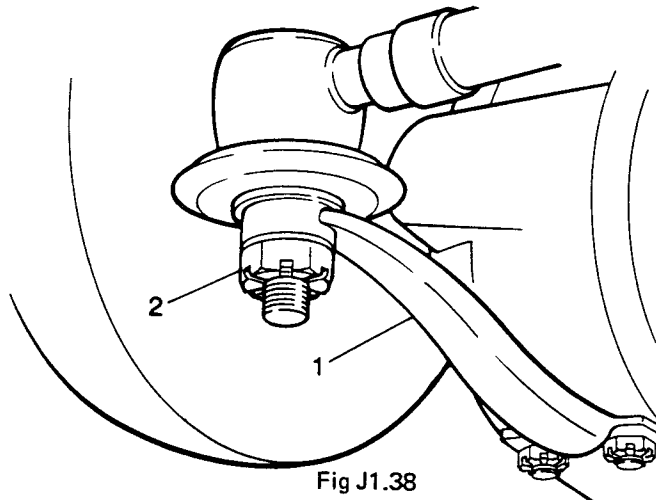

Fig J1.38
- (4) Refer to Fig J1.38. Reconnect the track rod (1) at the ball joint. Torque the castellated nut (2) to 40 N.m and fit a new split pin.
- (5) Replace the front axle half shaft (see Sub-sub-section J1.4, Chapter 5).
- (6) Check and, if necessary reset, the position of the steering lock stop plate.